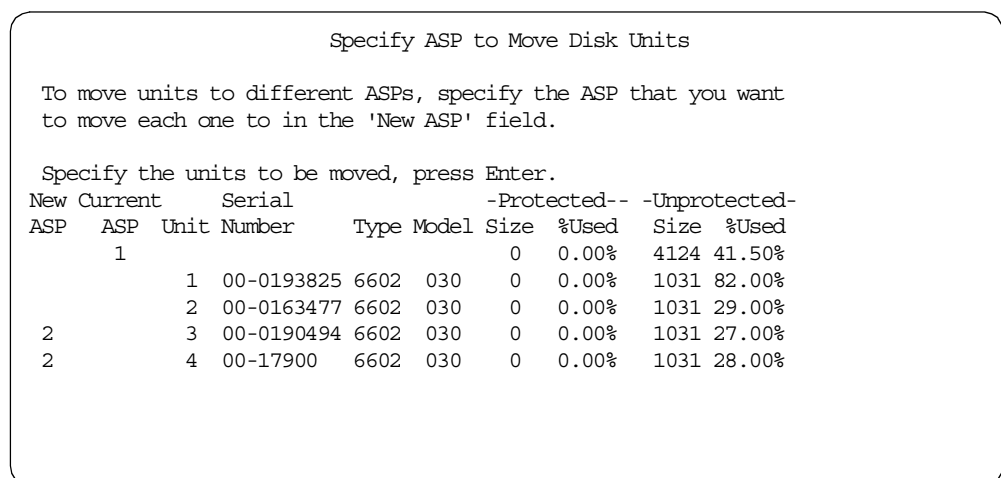

Figure 429. DST Specify ASP to Move Disk Units display
- From the next menu, select option **1 (Work with disk configuration)**, option **3 (Work with ASP configuration)**, and option **6 (Move units from one ASP to another)**. A menu (Figure 429) appears that allows you to select the disk drives to be included in the new user ASP.